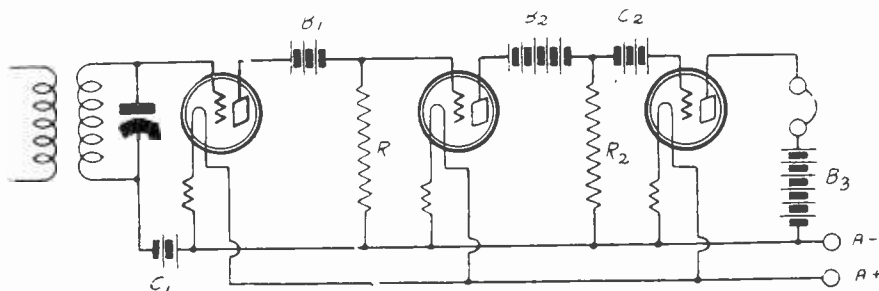

FIG. 711
(1)—Fig. 711 shows a three-tube amplifier suitable for amplification of direct current. A milliammeter should be put in place of the headset for detecting the changes in the direct current, and the tuned circuit should be replaced by the DC input device. A very small change in the grid voltage on the first tube will result in a very large change in the plate current of the last tube.